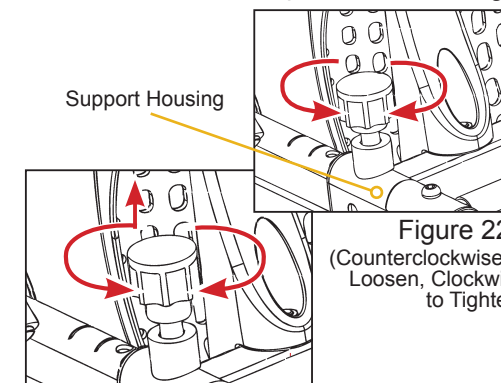

Figure 22A
- As a "de-rattler" to prevent excess movement of the support arms (Figure 22A)